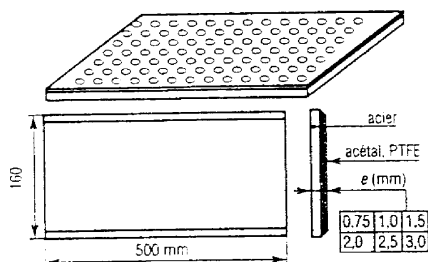

FIG.7
2.1.4. Liaison appui plan (figure 7)